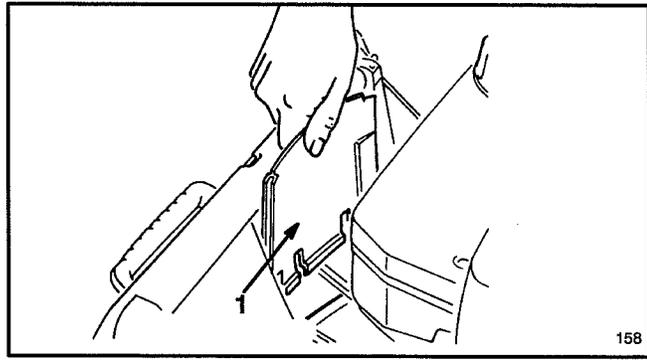

Figure 31
3. Remove the vertical panel in front of the transmission by pulling straight up (Fig. 31).